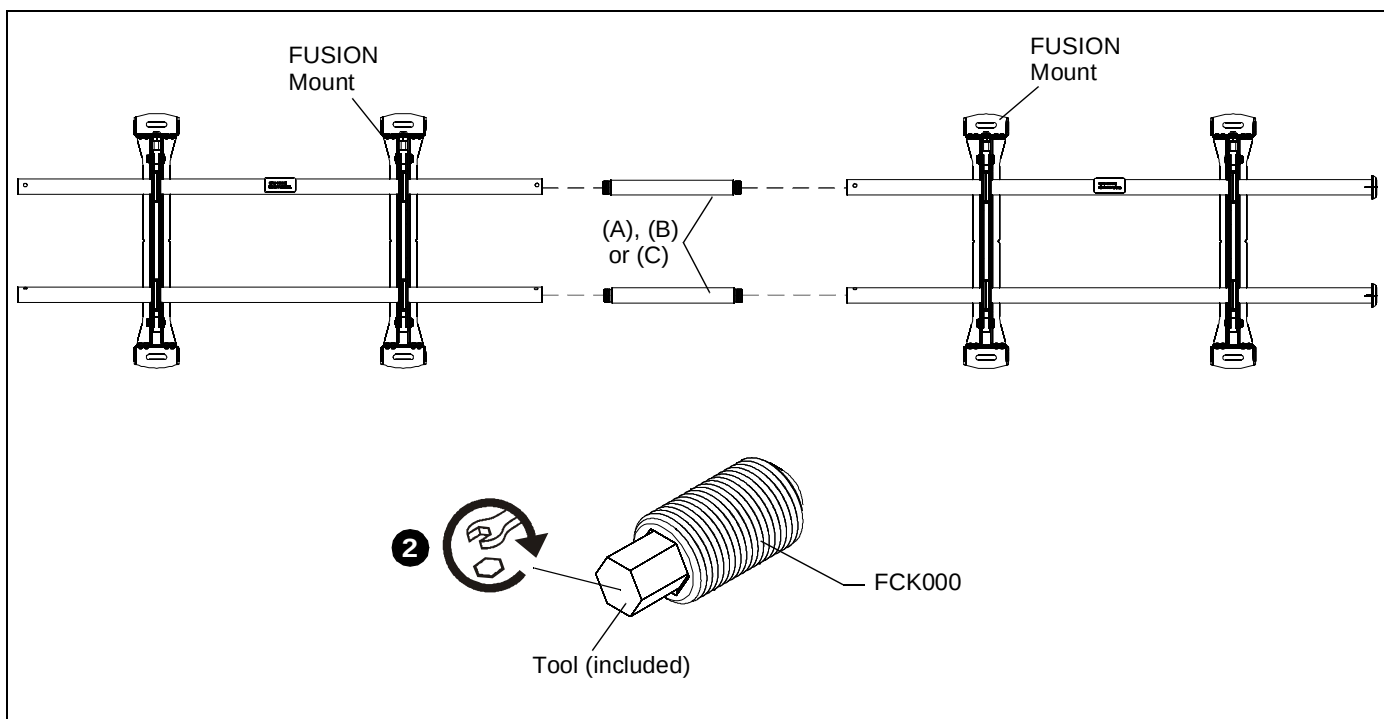

Figure 2
2. Attach FCK000, FCK008 or FCK016 (A, B or C) to the wall mount rails and tighten. (See Figure 2)